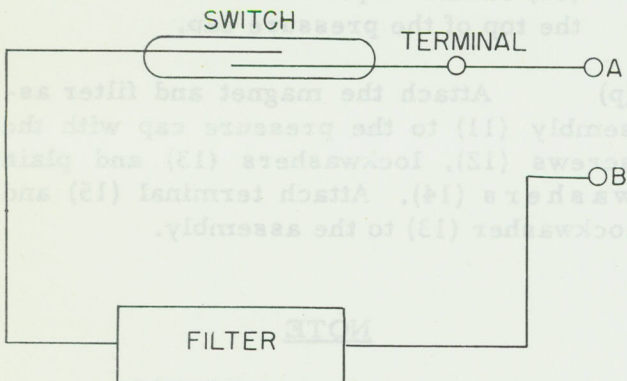
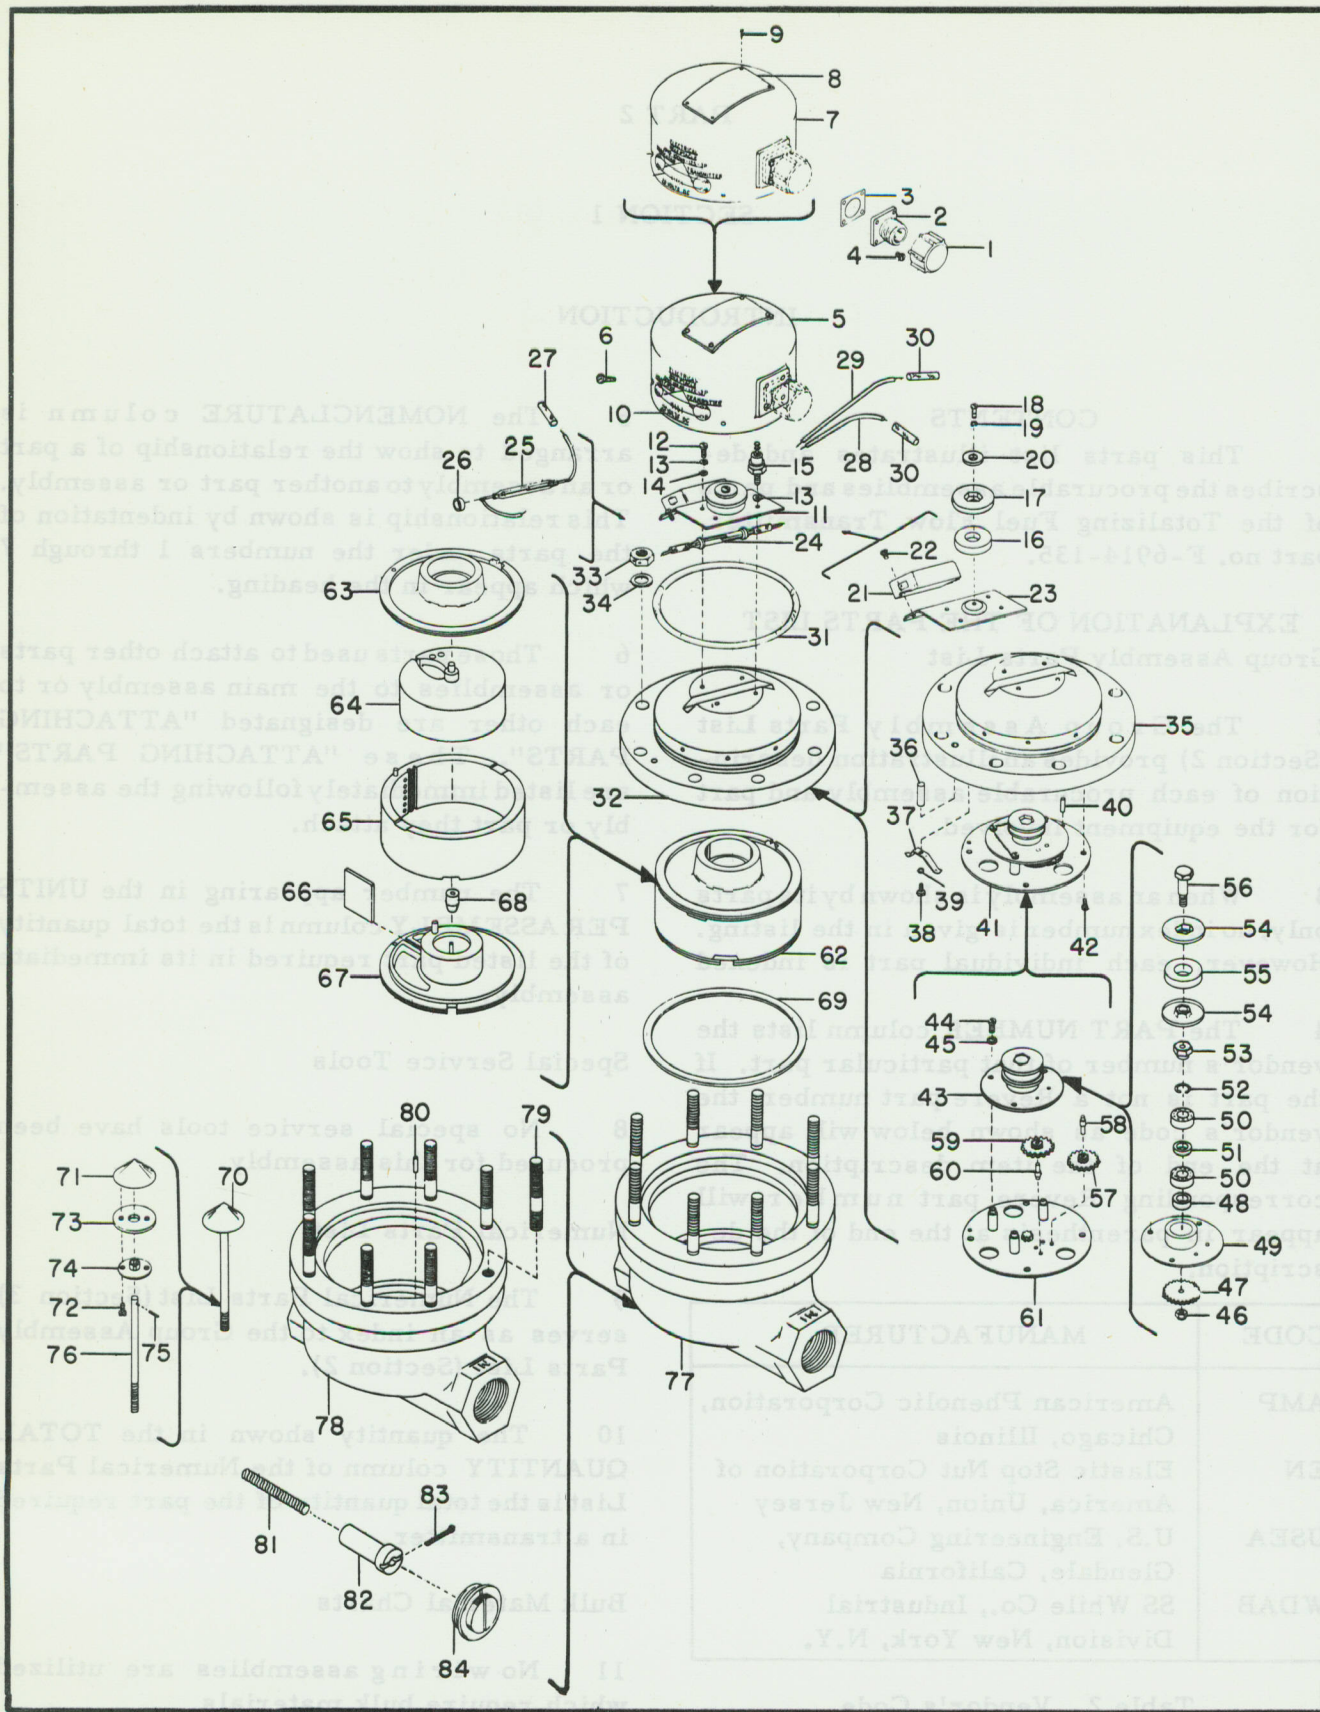

Figure 1-3. Wiring Diagram of Leads
Figure 2-1. Exploded View
(q) Using 60/40, 16 gauge solder, Federal Specification QQ-S-571b with flux in core, solder one lead of the switch to the filter (21, figure 2-1) and the other lead to the terminal (15). Solder an additional lead (28) to the terminal and one lead (29) to the filter (see figure 1-3). The latter two leads will be connected to the receptacle.
(1) Using a Triplett Model 666-HH ohmmeter, or equivalent, equipped with alligator clips, attach one clip to each terminal of the switch.
(2) Rotate the drive dog on the gear train assembly (41, figure 2-1) to see if switch operates once for each 50.4 turns of the dog. If not, rotate top magnet (16) until condition exists.
(x) Clean lead wire and receptacle terminals thoroughly, removing all dirt, paint and other foreign matter. Use 60/40, 16/gauge solder Federal Specification QQ-S-571b with flux in core. Solder leads to the receptacle (see figure 1-3).
(y) Positioning the top housing in the same location as it was before disassembly (in relation to the "IN" port) fasten with screws (6, figure 2-1) and safety wire.
(b) With the nylon rod in place, the transmitter should be connected to the test stand and the pressure drop between the "IN" and "OUT" ports measured for flow rates of 1000 and 320 gph. The pressure drop at 1000 gph should not exceed 22 psi and the drop at 320 gph should not exceed 18 psi. If the pressure drop is greater than specified the valve spring (81, figure 2-1) has excessive compression. Adjust the compression by backing off the valve nut (82) (reference section 2 paragraph 9c).